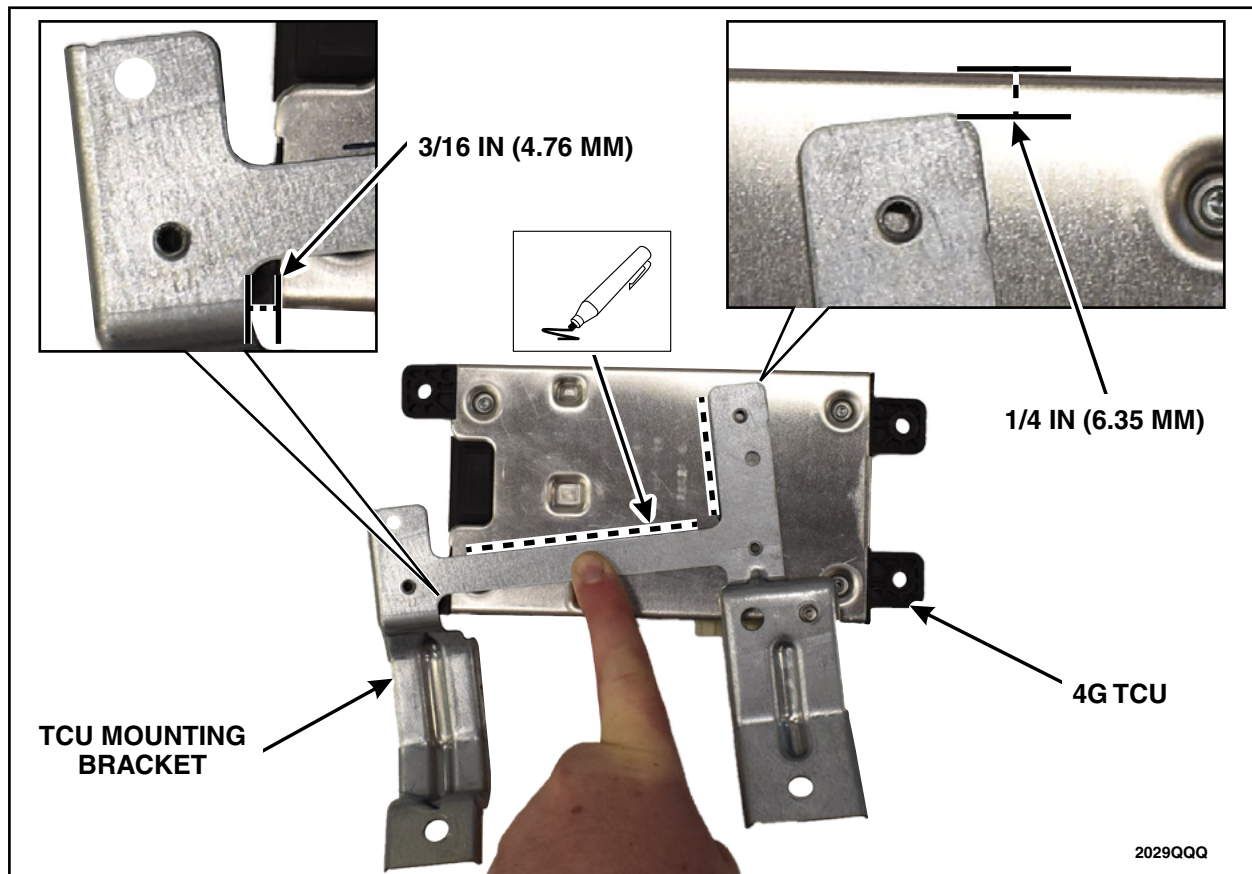

FIGURE 2
5. Align, measure and mark the bracket location on the *new* 4G TCU module. See Figure 2.